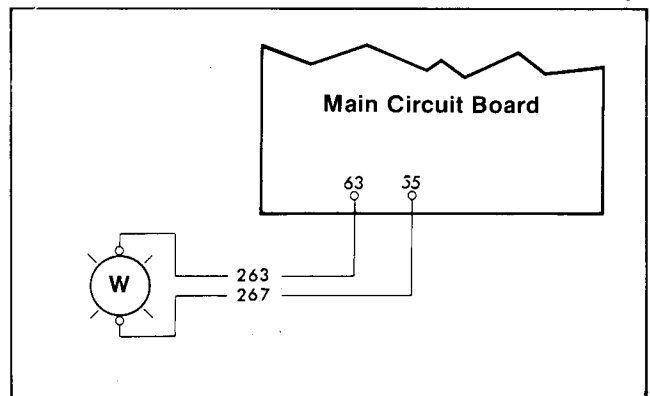

Figure 23. 12-F, H Connections
- **Acc. 12-F, H Emergency Source**, lights to show emergency source available. See Figure 23 for connections.